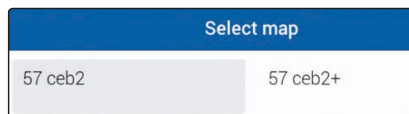

Fig. 263
- Select a map from the list (Fig. 263).